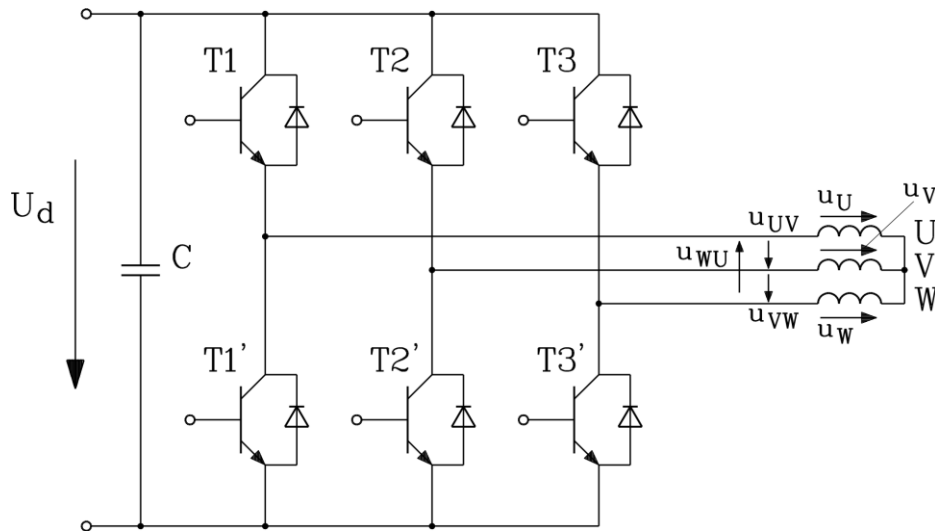

Fig. 34: The electric circuit of the inverter with the star connected stator winding
- 1) Which transistors must conduct in Fig. 34 to get the wanted position of the stator voltage space vector? Describe the corresponding current flow!